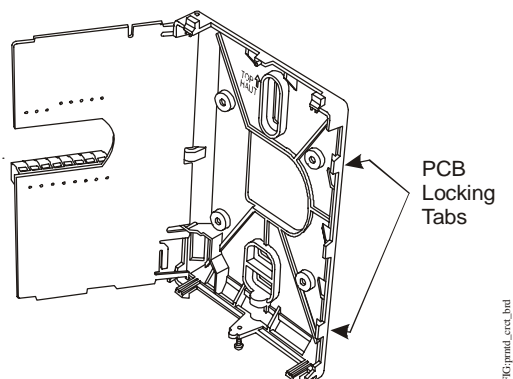

Figure 3: Opening the Zone Controller PCB
2. Carefully pull the locking tabs on the right side of the zone controller mounting base, and unlock the PCB. Open the PCB to the left as illustrated in Figure 3.